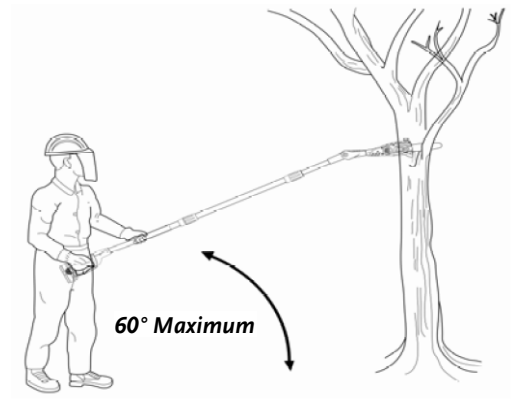

Figure 15
- Balance your weight with both feet on solid ground (**Figure 15**).
- Take the proper stance in front of the tree with the Saw OFF (**Figure 15**).